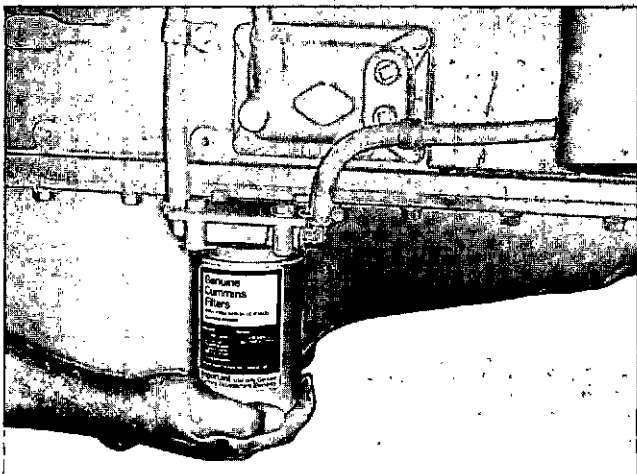

Fig. 0-7 (N11976). Remove The Water Filter.
2. Remove the element from the water filter and discard, Fig. 0-7.